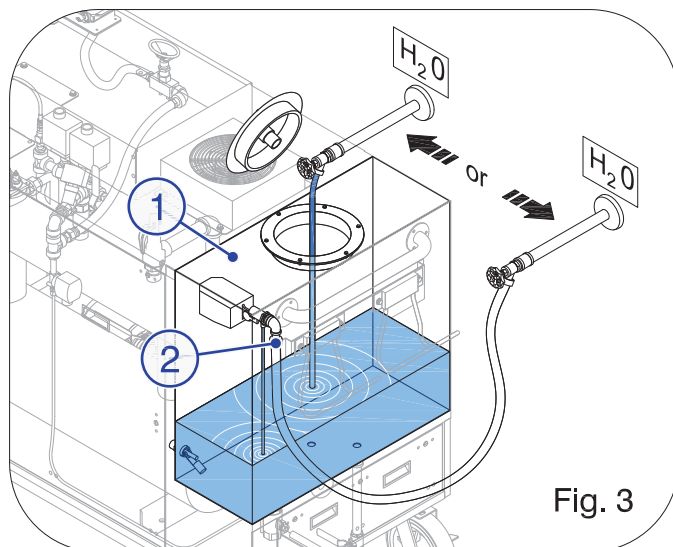

Fig. 3
In order to run the machine, the 31 gallon Reservoir Tank (1-Fig. 3) must be filled with water. It can be manually filled with water from the top, or automatically filled through the Water Inlet Connection (2-Fig. 3) in the rear of the generator with a **10-80 PSI (0.7-5.5 BAR)** water supply.
- ☞ Make sure the Reservoir Tank is full of water **OR** there is a **10-80 PSI (0.7-5.5 BAR)** water supply connected to the Water Inlet Connection (See Fig. 3).